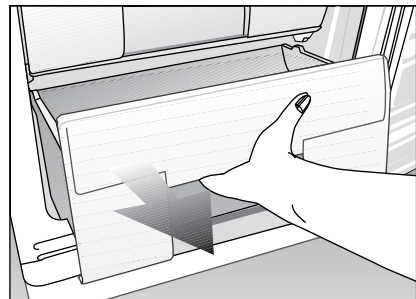

Fig 1
- When defrosting has finished, sponge out any defrost water which collects at the bottom of the freezer and dry the interior thoroughly. Insert the plug in to the wall socket and switch on the electricity supply. (Fig. 1 & 2)